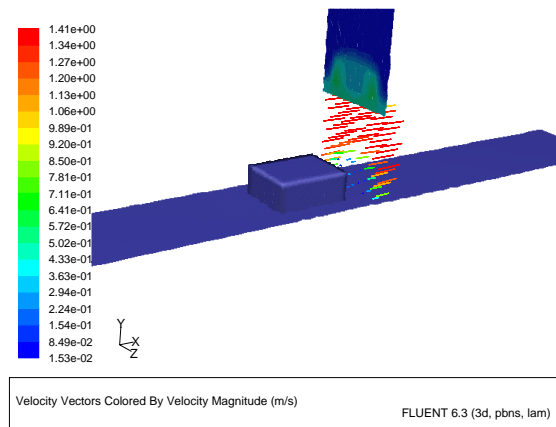

Figure 23.18: Exploded Scene Display of Temperature and Velocity
5. Create the exploded view by translating the contour display, placing it above the vectors (Figure 23.18).
The exploded view allows you to see the contours and vectors as distinct displays in the final scene (Figure 23.18).